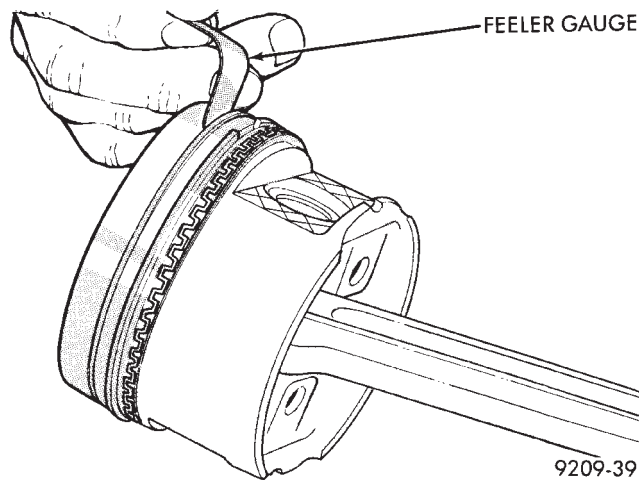

Fig. 6 Piston Ring Side Clearance
(2) Check piston ring to groove side clearance (Fig. 6). Refer to Piston Ring Specification Chart.